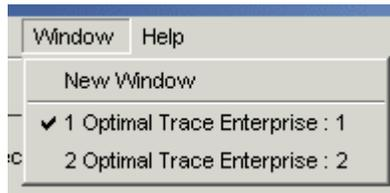

Figure 78 - Opening New Windows
- Click on New Window, and a new window will appear, where the list of currently open windows is displayed below the New Window menu item (Figure 78).